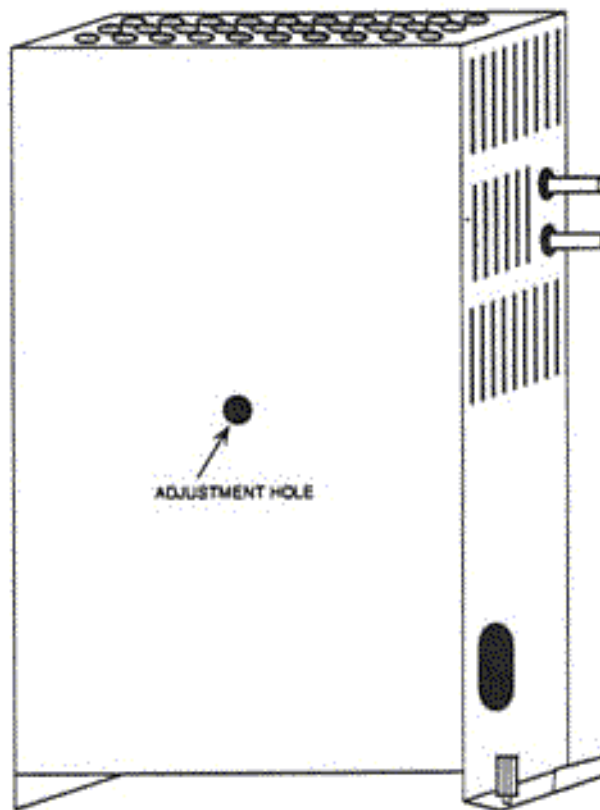

Figure 32
20. As shown in Figure 32, find the access hole on the left side of the power supply. With a long-handled 1/8-inch slotted screwdriver, tweak the +5.00-V adjustment pot (R11) clockwise 1/16 of a turn. Reinsert the supply and measure again (repeating step 18). If the meter still doesn't read +5.00 volts, repeat steps 18 through 20 until it does.